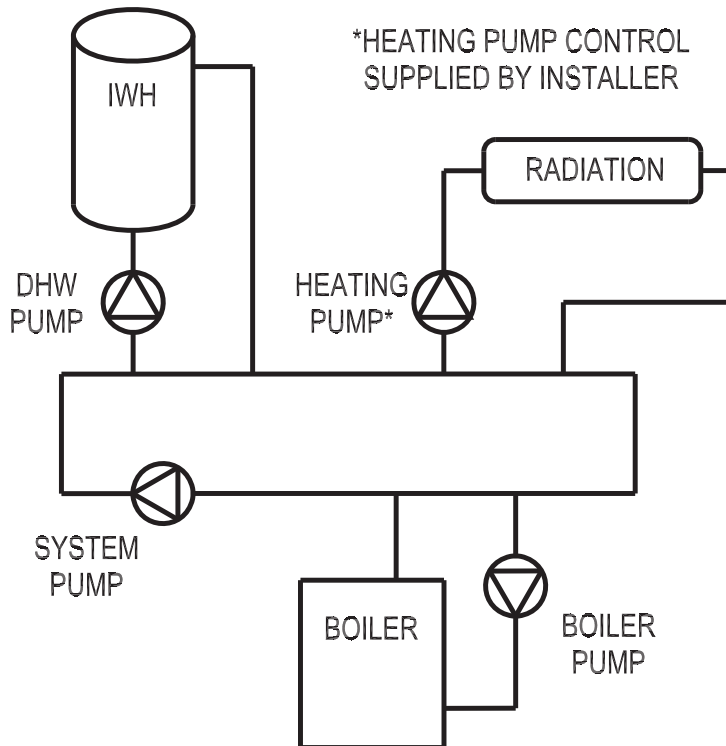

Figure 12.8: DHW Config. Option #4 Piping (IWH to Primary Loop) - Example #2
Option #4: Indirect Water Heater Type: Storage, Zoning: DHW Circulator Pumps to Primary Loop - Two examples of this type of system are shown in Figures 12.5 and 12.8. Note that for the system shown in Figure 12.8, the system pump must be set to run on any demand (see Step 4). When Option 4 is selected, the system operates as follows:
- **System Pump Runs for Any Demand** - The system pump runs during a call for either CH or DHW. This option must be selected when the indirect water heater is piped as shown in Figure 12.8.